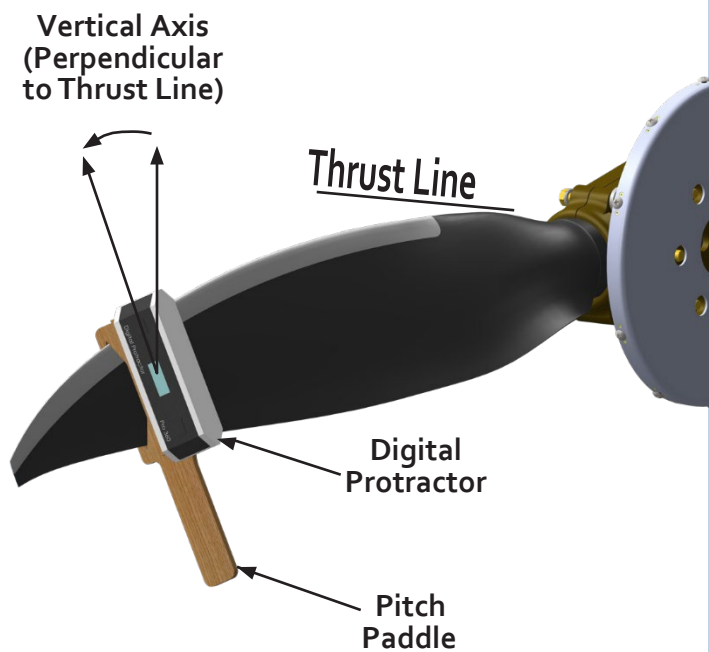

Figure 8- GA300L Pitch Paddle Diagram
3. Slide the pitch paddle and protractor on the **left** blade as shown in Figure 8. Make sure the pitch paddle is parallel with the blade's cord-line and rotate the blade to the suggest starting pitch angle in Table 5.